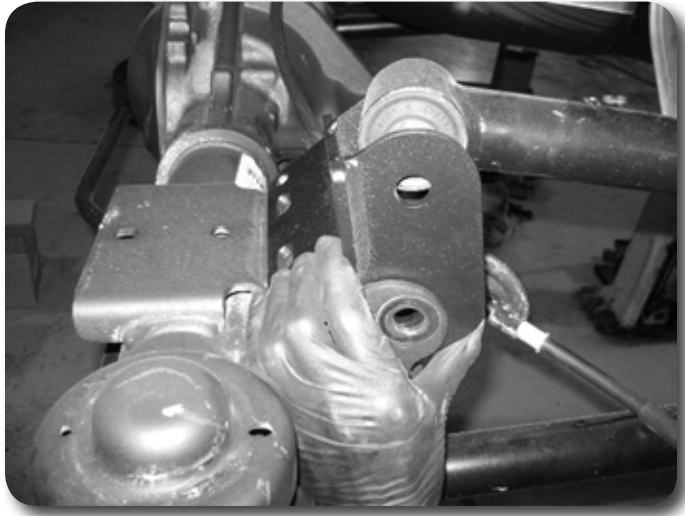
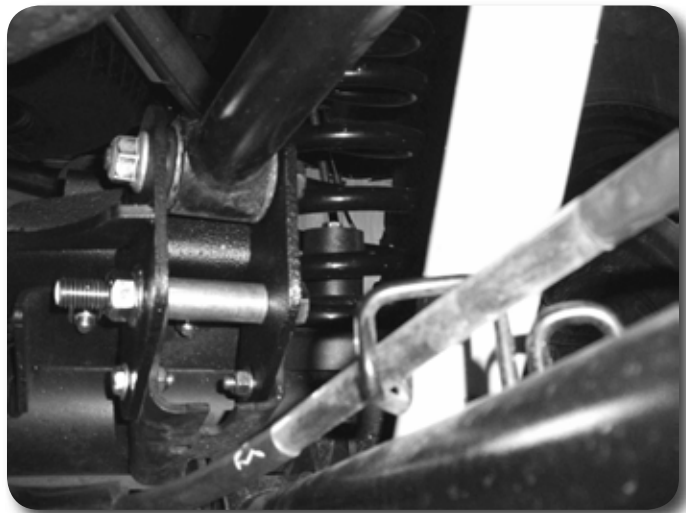

Figure 25a
Figure 28
79. Place the upper control arm relocation bracket over the pocket. The plate will be offset towards the inside of the vehicle. The upper plate will only use 2 of the 4 holes. Mark the center of the holes and drill to 7/16". Figures 25a, 25b, 26, 27- pass side, Figures 28 – drv side